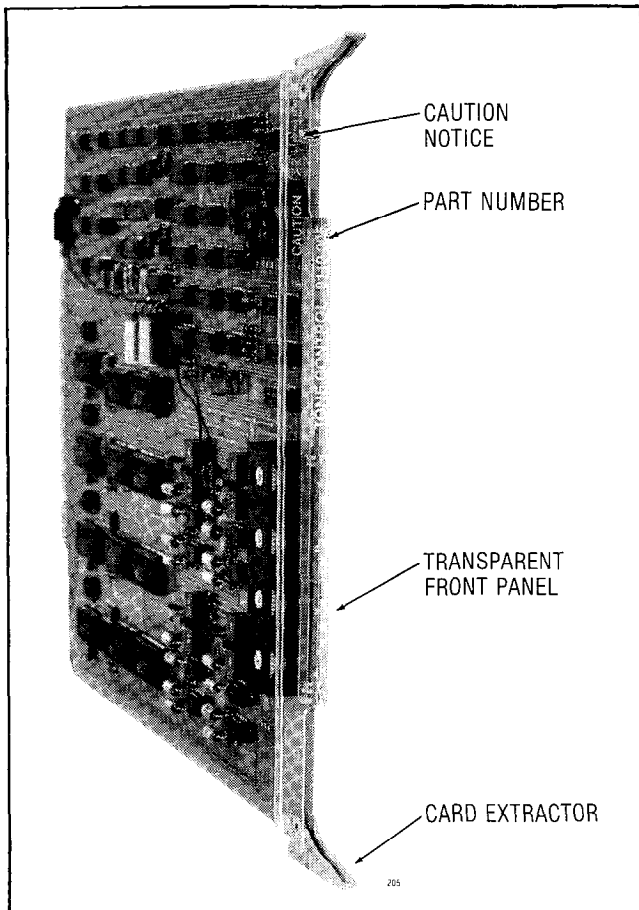

Fig. 2-5 Printed Circuit Card
2.14 All circuit cards (Fig. 2-5) used in the PABX's are identical in construction and consist of a fiberglass board with printed wiring patterns on both of its faces. Riveted to the front of each board is a transparent faceplate which allows the LEDs mounted on the front of the boards to be easily seen. The two color-coded card extractors located at the top and bottom of the faceplate identify the card position within a shelf and ensure that the card is seated correctly in the backplane connector.